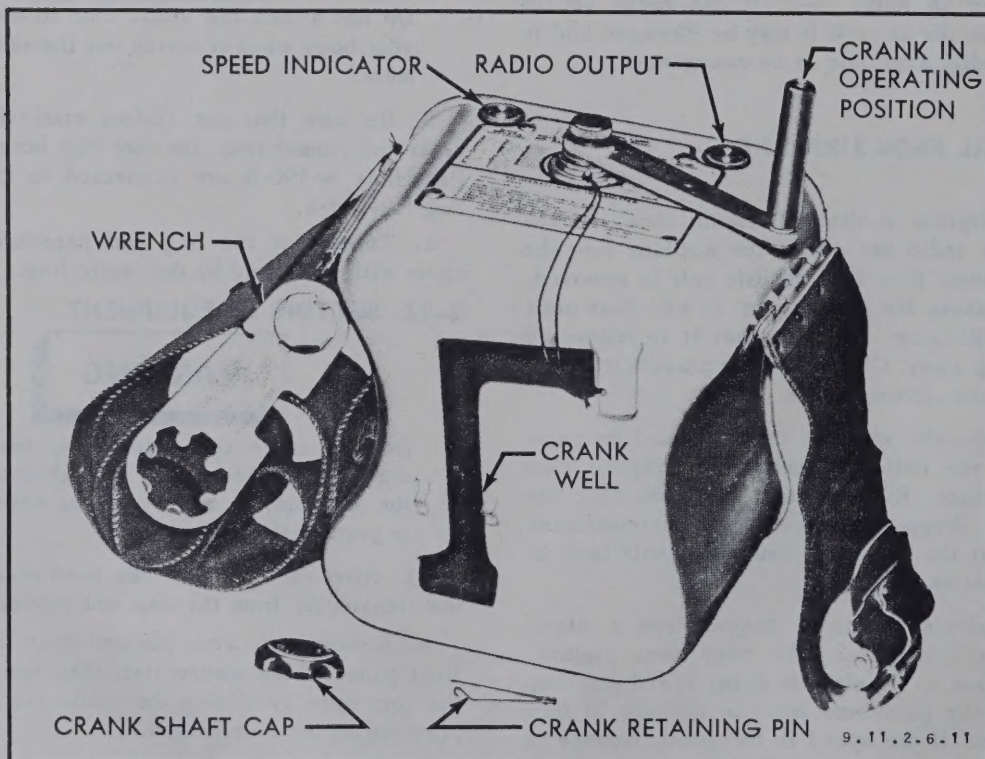

Figure 2-2. Radio Transmitter T-74/CRT-3 — Rear View
c. Rotate the BRAKE knob clockwise to maintain a slight tension on the reel. Use the wrench attached to the belt to loosen the brake if it cannot be turned by hand. (See figure 2-2.)
a. Remove the cap located at the top center of the transmitter, making the crank socket available. If necessary, use the wrench attached to the transmitter to loosen the cap. (See figure 2-2.) Save the cap, it should be replaced if the crank is removed.
2-22. Operating the transmitter requires a comparatively high turning torque. To assure stability, a belt assembly is attached to the case of the transmitter and employed to fasten the transmitter to the operator. (See figure 2-2.) Attach the transmitter as follows: